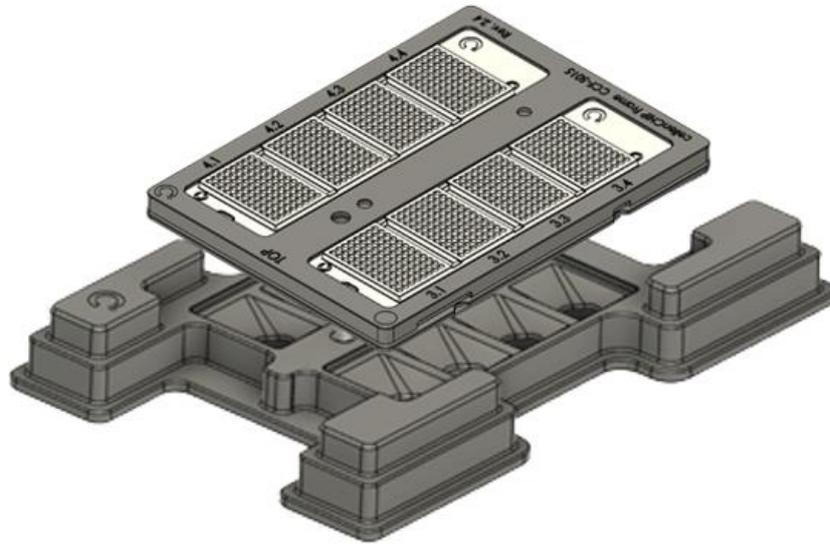

Fig 3. cellenCHIP 384 assembly for centrifugation. A) Representation of the cellenCHIP 384 placed facing upwards in the cellenCHIP 384 Centrifuge Adaptor.
- i) Remove the “Slide holder” and replace it in the target 1 by the **cellenCHIP Print Platform** (Fig 3).
- b) Place the ensemble into the **cellenCHIP 384 Centrifuge Adapter** with the sealed side of the Chip **facing upwards** as showed in Fig 3.
- c) Place the **cellenCHIP 384 RTready** mounted into the **cellenCHIP 384 Holder** in the **cellenCHIP 384 Centrifuge Adapter facing upwards** (Fig 3); **Centrifuge for 1 min 30 sec at 2000 x g at 4°C**.
- d) At the end of RT reaction take the **cellenCHIP 384 RTready**, place it back in the **cellenCHIP 384 Holder** if the RT occurred in the cellenCYCLER and place into the **cellenCHIP 384 Centrifuge Adapter facing upwards** (Fig 3); **spin down the RT product at 2000x g for 1 min 30 sec at 4°C.**